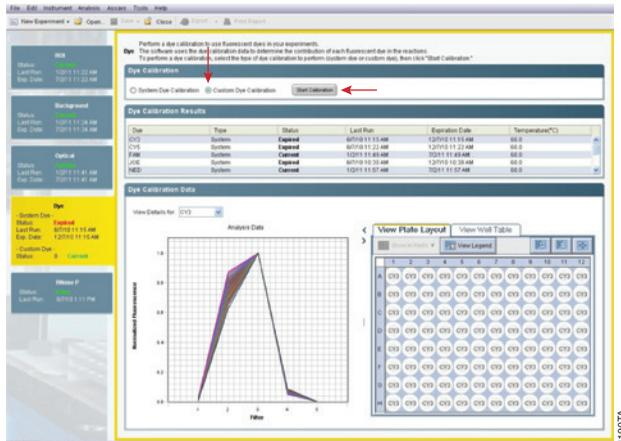

Figure 4. Select Custom Dye Calibration and Start Calibration.
5. In the Dye Screen select “Custom Dye Calibration” and click “Start Calibration” (Figure 4).